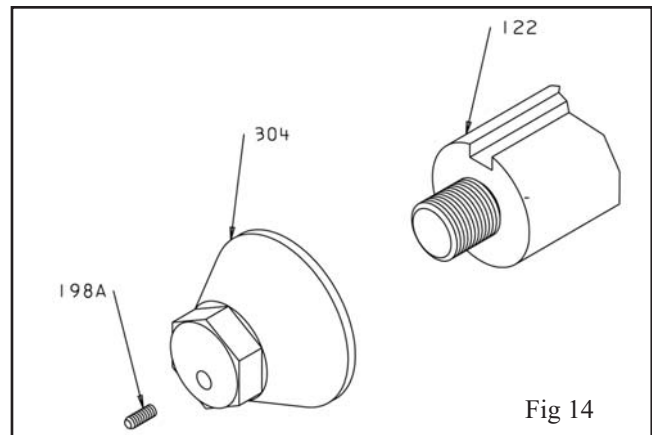

Fig. 14
1. Loosen set screw (198A) in end of impeller nut (304) (Fig. 14).
2. Loosen and remove impeller nut (304).